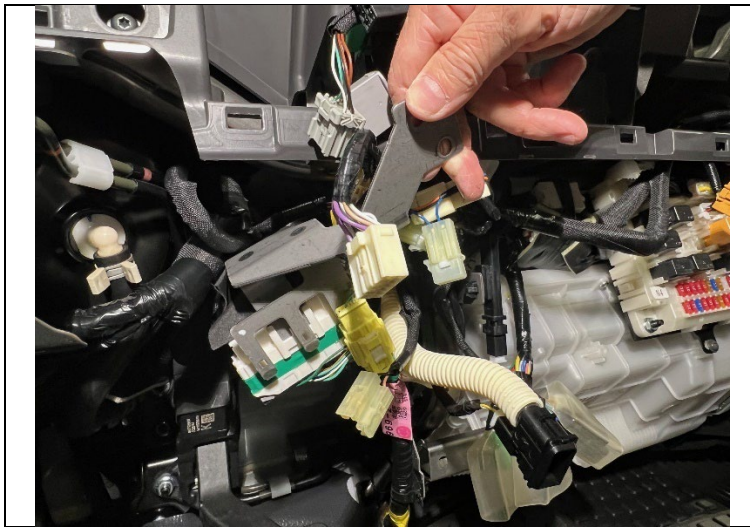

Figure 14
17. Remove the two (2) nuts holding on the H98 and H99 connector bracket.
18. Move the H98 and H99 connector bracket to the left and downward for easier access to the connectors. (See Figure 14.)